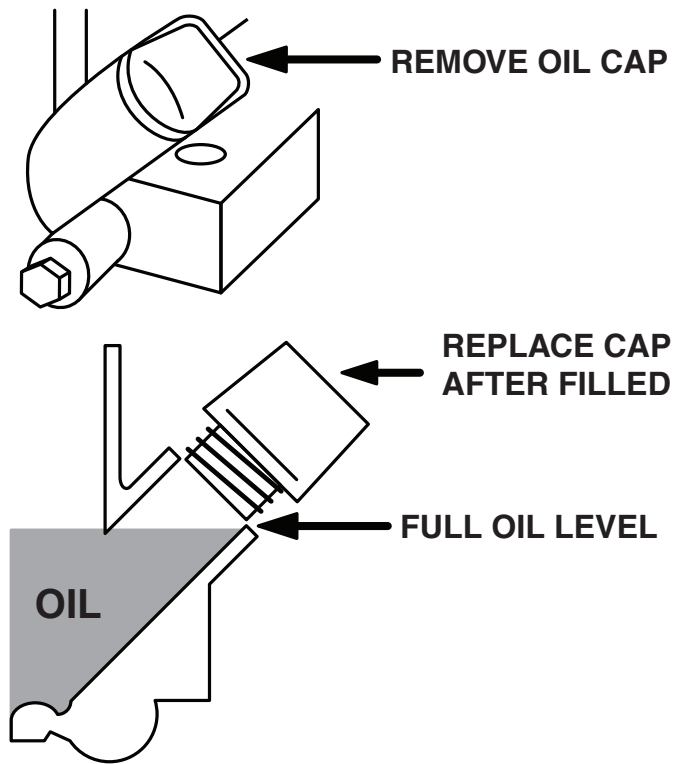

FIGURE 20
- Check **oil level** before each use. Maintain engine oil at level shown in figure 20 below.